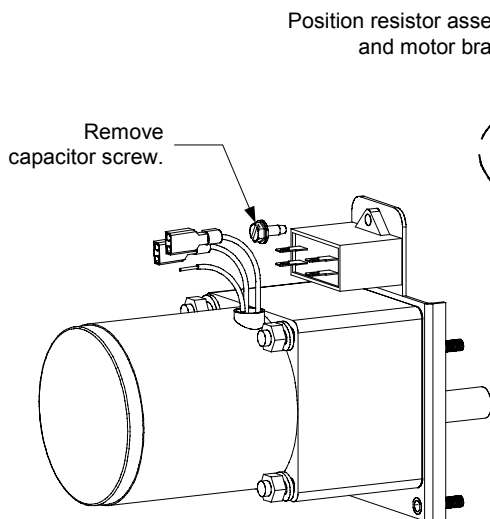

Figure 2
8. On the new motor, install the resistor assembly as shown in Figures 2 and 3. **Do not disconnect the capacitor wires.**